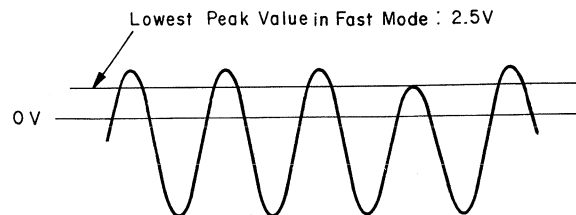

Fig. 4.7
- Set the N-700ZXL in Fast (F.F. or Rewind) mode, then adjust VR506 on the Main Logic P.C.B. Ass'y so that the lowest plus peak value of waveforms does not lower than 2.5 V DC as shown in Fig. 4.7.